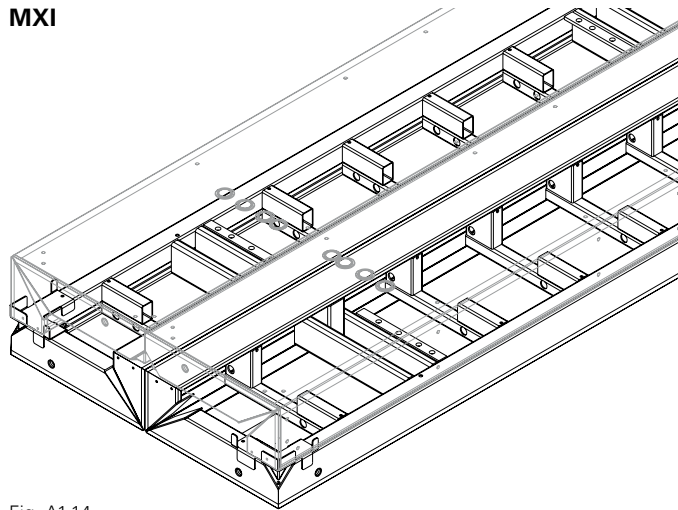

Fig. A1.14
– four shaft corners. Install Stacking Aids (3 + 4) only on the corners. (Fig. A1.14)